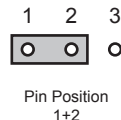

Figure 3.2 J7 — Default Position
- › **Pin 1** (left) + **Pin 2** (center) position — In this position, the analog reference is terminated with an 75ohm resistor. This configuration is to be used for point-to-point cabling, or on the last card of a daisy chain topology. This is the default position (**Figure 3.2**).